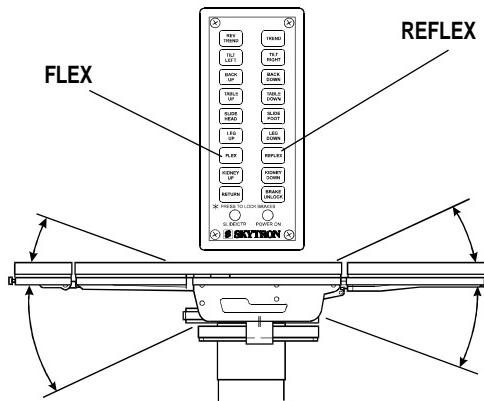

Figure 2-10. Flex/Reflex Positioning
**h. Flex Positioning.** To place the table top in a flex position from horizontal, press the FLEX button (figure 2-10). To return the table top to a horizontal position or into a reflex position, press the RETURN or REFLEX button.